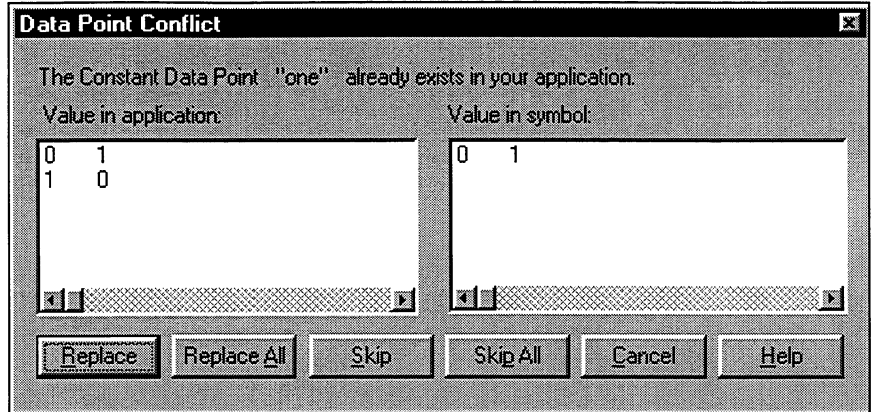

Figure 8-5. Data Point Conflict Dialog Box
9. If you insert a symbol that incorporates data points with the same name, of the same type (expressions, constants, strings, recipes, alarms, etc.), but different values than the ones currently defined in your application, the Data Point Conflict dialog box will display, as shown in Figure 8-5.